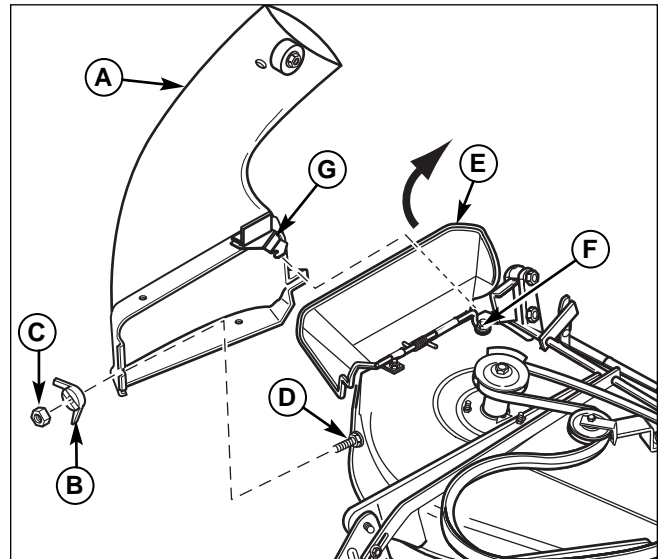

Figure 11. Install Lower Discharge Chute
1. Lift discharge deflector up (E, Figure 11).
2. Slide the notch of bracket (G) on to deflector hinge rod (F).
3. Secure the front of lower chute (A) to carriage bolt (D) using wing nut (B) and locknut (C).